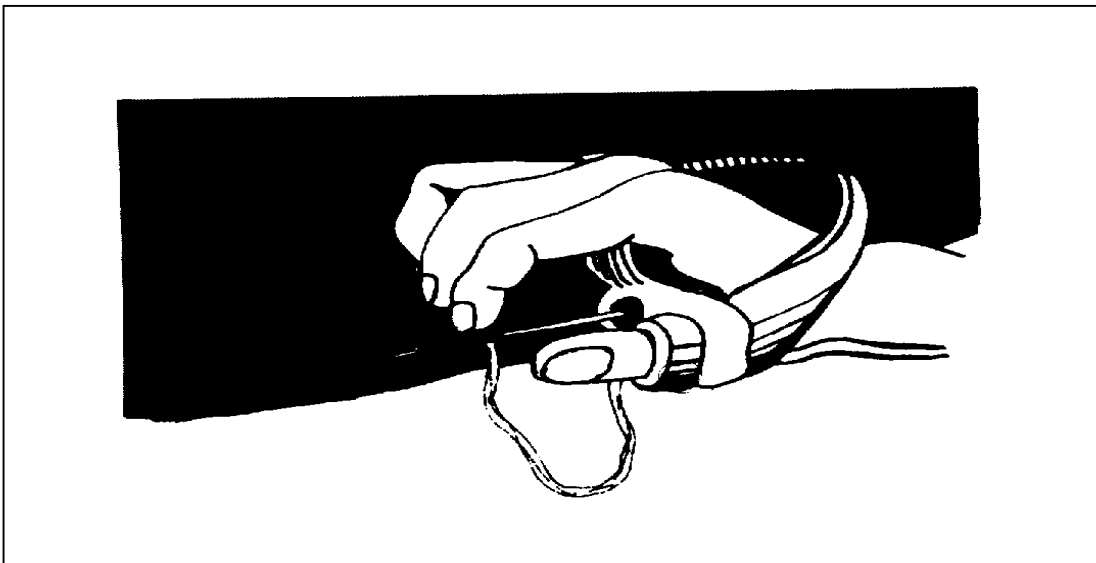

Figure 7-8. Backstitch on canvas
b. **Backstitch.** The backstitch (Figure 7-8) is used on canvas to close an open seam and to tack the beginning and the end of a row of hand stitches. To make a row of backstitches--
(1) Push the sailmaker's needle through the canvas or webbing, and pull the thread through to the knot.
(2) Tack the beginning of the row by tacking two small stitches, one on top of the other.
- (3) Push the needle up through the canvas or webbing one stitch length from the first two stitches.
- (4) Take one stitch back, pushing the needle down into the canvas or webbing at the end of the first two stitches.
- (5) Push the needle up through the canvas or webbing one stitch length in front of the previous stitch.
- (6) Stitch back, pushing the needle down into the canvas or webbing at the end of the previous stitch.
- (7) Continue to stitch to the end of the row as in 5 and 6 above.
- (8) Tack the end of the row by taking two stitches, one on top of the other.
- (9) Make a knot in the thread close to the canvas, and cut off the remaining thread.